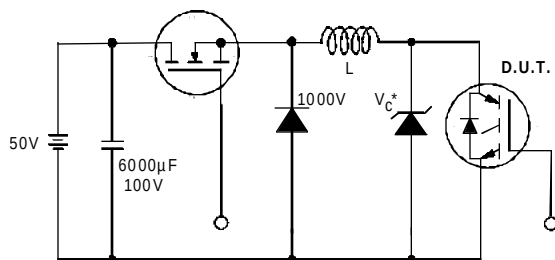

Figure 19. Clamped Inductive Load Test Circuit
② $V_{CC}=80\%(V_{CES})$, $V_{GE}=20V$, $L=10\mu H$, $R_G = 50\Omega$, (See fig. 19)
③ Pulse width $\leq 80\mu s$; duty factor $\leq 0.1\%$.
④ Pulse width $5.0\mu s$, single shot.
- ② $V_{CC}=80\%(V_{CES})$, $V_{GE}=20V$, $L=10\mu H$, $R_G = 22\Omega$ (figure 19)
- ③ Pulse width $\leq 80\mu s$; duty factor $\leq 0.1\%$.
- ④ Pulse width $5.0\mu s$, single shot.